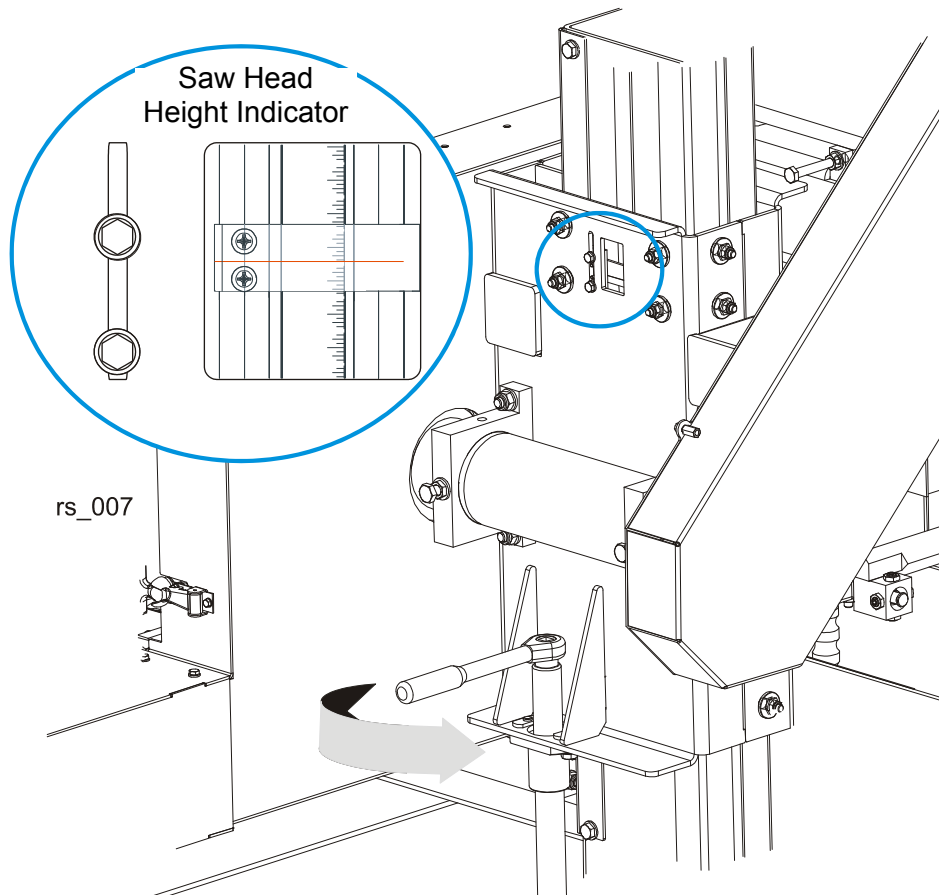

FIG. 2-12
**See Figure 2-12.** To raise or lower the saw head, use the acme screw as shown in the figure. Turn the screw clockwise to raise the saw head; counterclockwise to lower the saw